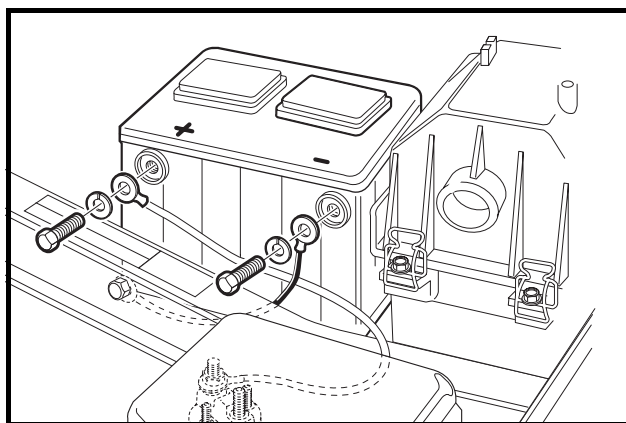

Figure 25 Battery
The battery in a Husqvarna vehicle is a 12-volt, low-maintenance battery that requires infrequent checks (**Figure 25**). Electrolyte level should be checked semiannually.
5. Use a flat blade screwdriver, and carefully remove the battery cell caps from the battery (**Figure 25**). See following **WARNING**.